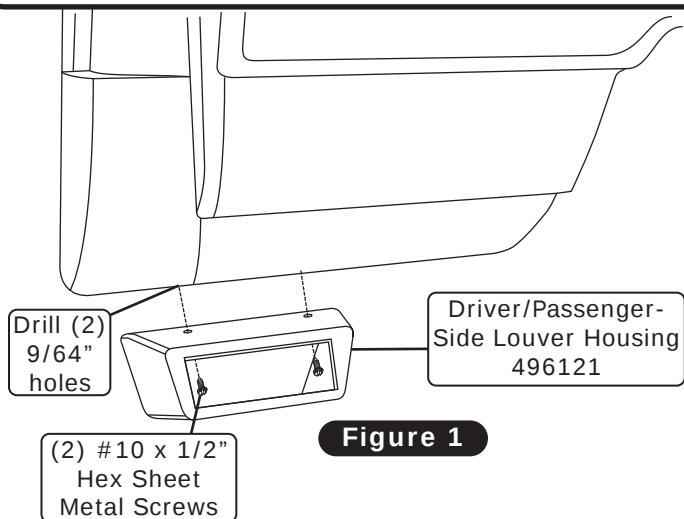

Figure 1
1. Place driver/passenger-side louver housing under the dash. Mark and drill (2) 9/64" holes as shown in Figure 1, below.
2. Secure the louver housing to the dash using (2) #10 x 1/2" hex sheet metal screws as shown in Figure 1, below.